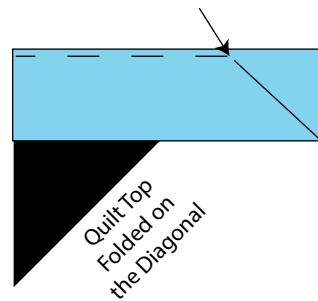
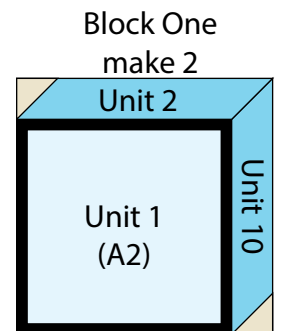

Fig. 21
Fig. 22
6. Place (1) Unit 10 strip on the right side of (1) Unit 1 square, aligning the bottom corner on each piece of fabric and pin in place. Start sewing the strip a $\frac{1}{4}$ " from the top edge of the block. **DO NOT TRIM THE EXCESS.**
7. Place (1) Unit 2 strip on the top of the Unit 1 square, aligning the left sides of the fabrics. and pin in place. Start sewing the strip a $\frac{1}{4}$ " from the top edge of the block. **DO NOT TRIM THE EXCESS.**
8. To miter each corner, fold the Unit 2 on a diagonal, wrong side together. This should line up the strips from adjacent sides (Fig. 21).
9. Starting at the sewn seam (represented by the arrow in Figure 21), draw a 45-degree line to the edge of the fabric. Sew on the drawn line. Trim the excess fabric leaving a $\frac{1}{4}$ " seam to make (1) 13" Block One square (Fig. 22).